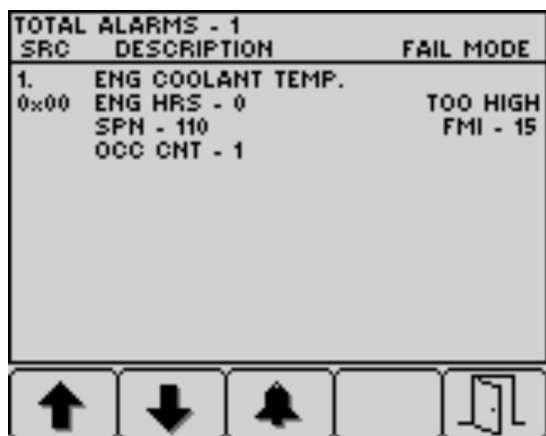

Figure 36
4. Press button 5 to exit the active fault list and return to the home screen (Figure 36).
5. Press button 5 to exit the active fault list and return to the home screen; refer to Figure 36 in Engine Advisories Messages \(page 33\).